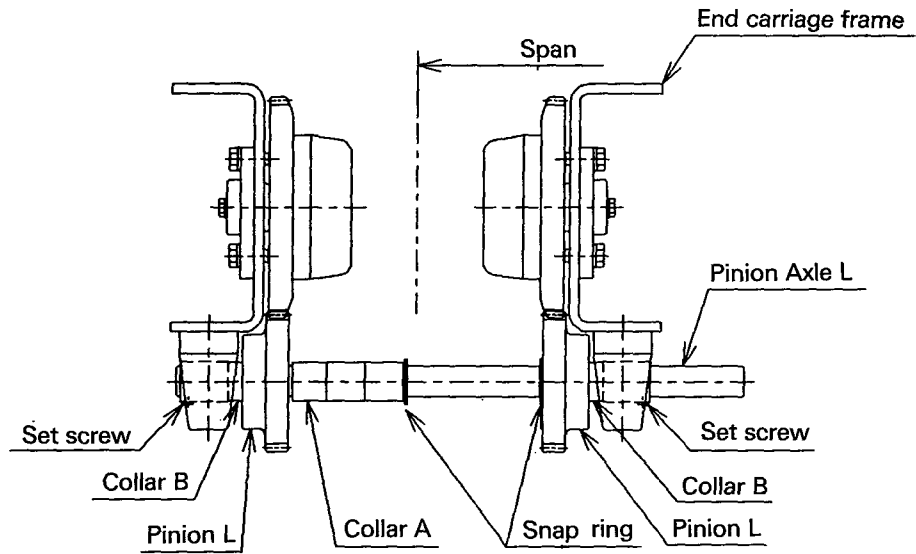

Fig. 11
Numbers of collar A determined by the travel rail width (T) is built in the pinion axle for adjustment of collar A, by referring to Fig. 11 and Table 7.